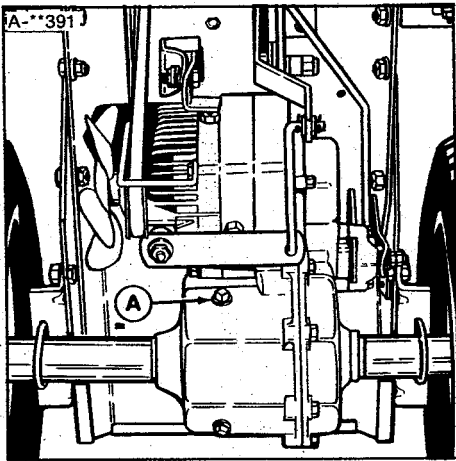

Figure 13. Differential Check Plug
2. Remove the check plug (A, figure 13) by turning counterclockwise. If the level is at the bottom of the hole, the fluid level is OK. If not, add oil. Use Simplicity Multipurpose Hydraulic/Transmission Oil or Allis-Chalmers Power Fluid 821.